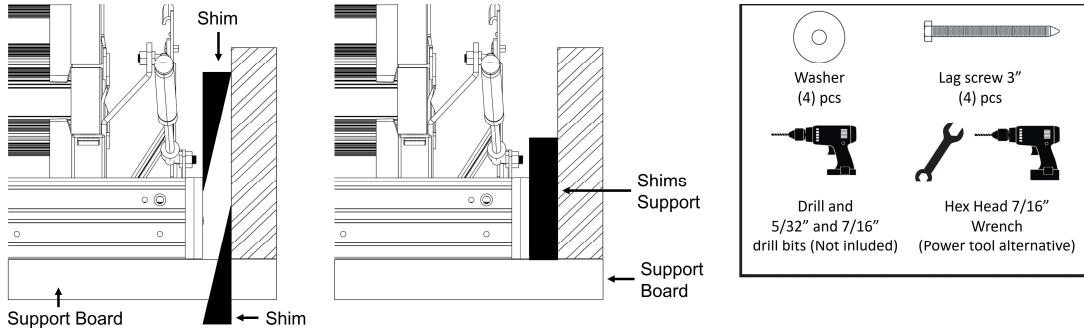
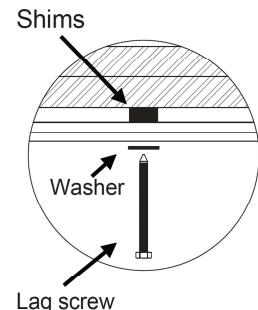
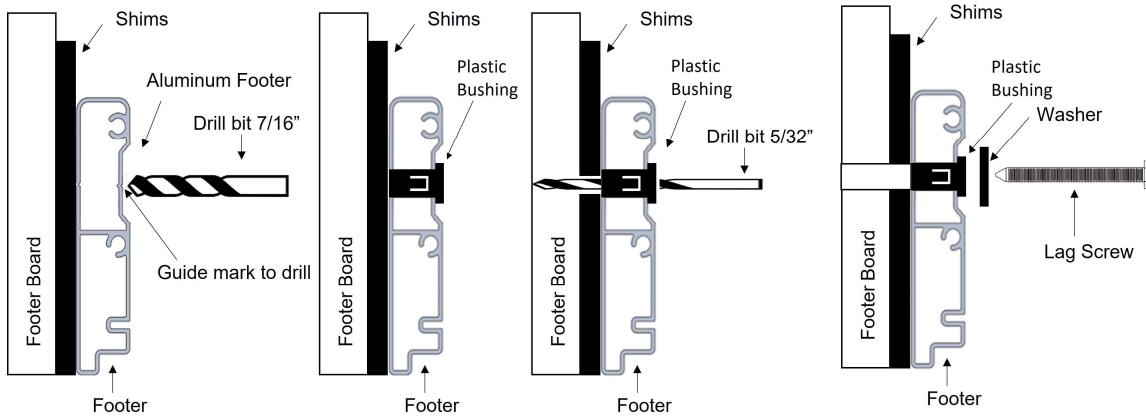

FIGURE 16 : SHIMMING SIDE FRAME.
FIGURE 17 : DRILLING AND SECURING PILOT HOLES AT SIDE
FIGURE 18: ALTERNATIVE INSTALLATION (SEE NOTE ON SECTION N)
N. Installer #1 and #2: Place shims from above and below (See **Figure 16**) at the 2 pre-drilled holes at position 1 indicated in **Figure 17**. The shims should provide uniform support so there is no twisting or bowing of the aluminum frame. Drill 5/32" diameter by 3" deep pilot holes into the ceiling joist through the bushings at position 1. Install the two lag screws to secure the attic ladder side frames.
If using the alternative position: Drill 2 holes using 7/16" drill bit from the inside of ladder **only through aluminum footer profile** (See **Figure 18**) and centered at the location you placed the footboard shims in Section J. **At this point the footer shims will become a necessary permanent part of the installation.** Next, install plastic bushings following the same procedure as in Section B. See **Figure 17** and **Figure 18**. Then, drill 3" deep pilot holes through the bushings, shims and into the ceiling joists. Finally install two lag screws and two washers at each footer location to secure the attic ladder.
(See **Figure 18**)